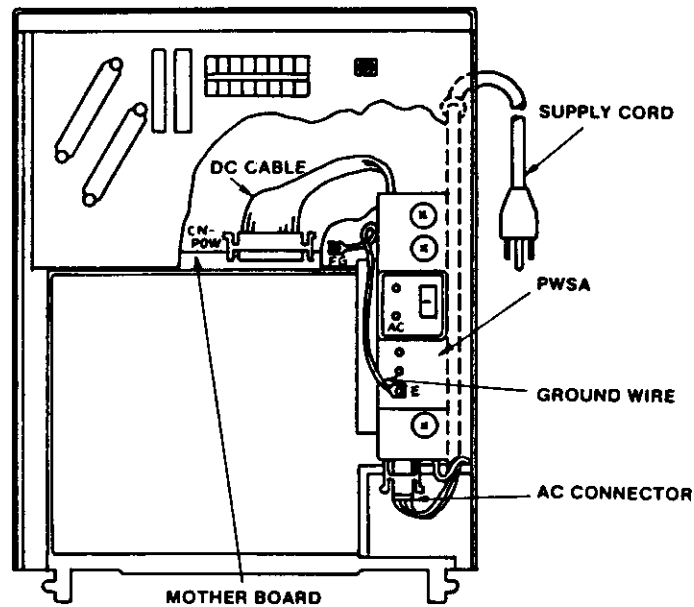

FIGURE 4-17 PWSA CONNECTION
- Plug in 3-pin (blue, red, black) plastic connector from the Motherboard into the PWSA as shown in Figure 4-17.
- To connect system backup batteries, loosen two screws at side of the power supply, remove cover plate and connect the batteries as shown in Figure 4-17.